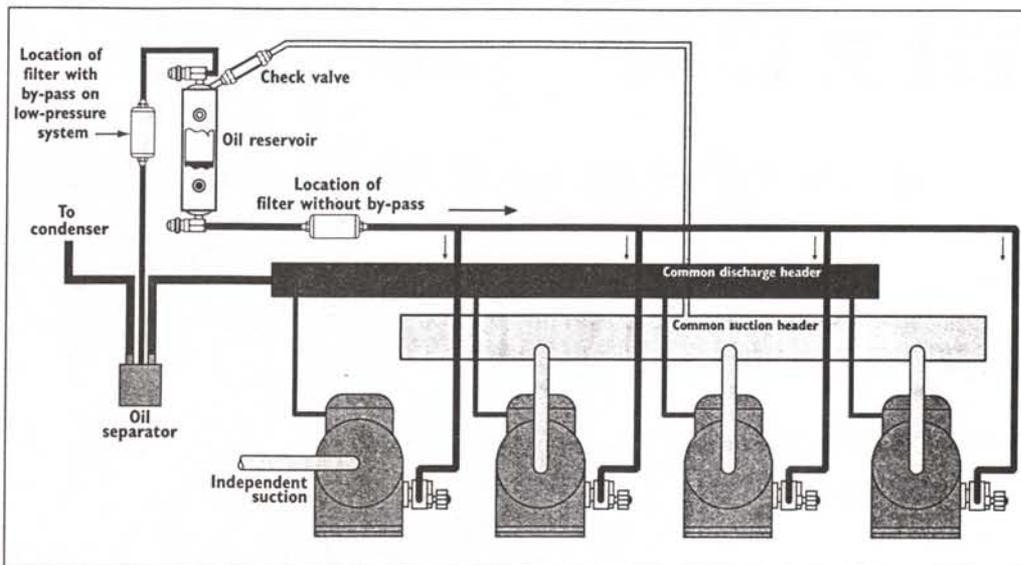

Figure 2. The oil filter should be in the oil line or oil feed line, depending on the application.
- **Filter location:** The oil filter should ideally be located in the oil line from the oil separator to the reservoir or in the oil feed line to oil level controls, depending on the application (Figure 2). The filter may be changed in a matter of minutes in these locations without shutting down the refrigeration system.